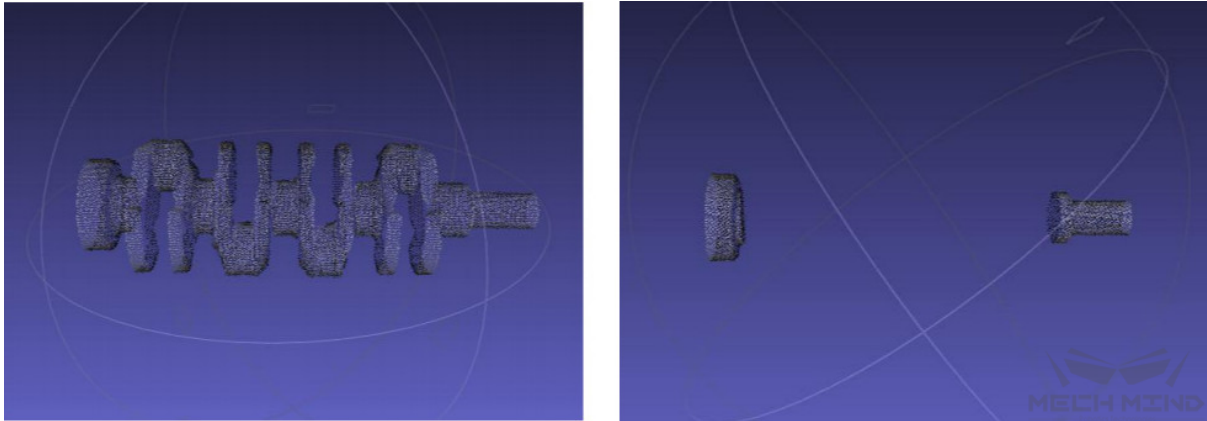

Figure 2.4 Symmetric matching template - weight template
- For Axisymmetric workpiece: if it is pure axisymmetric, it is unnecessary to set the weight; otherwise for crankshaft-like workpiece, its two ends do not have symmetry. Therefore, in order to avoid mismatches caused by rotation matching, the features of both ends should be treated as weight templates and set in the *3D Fine Matching* weight parameter. The template is shown in figure 2.4 (left: Symmetric matching template; right: Symmetric weight template).